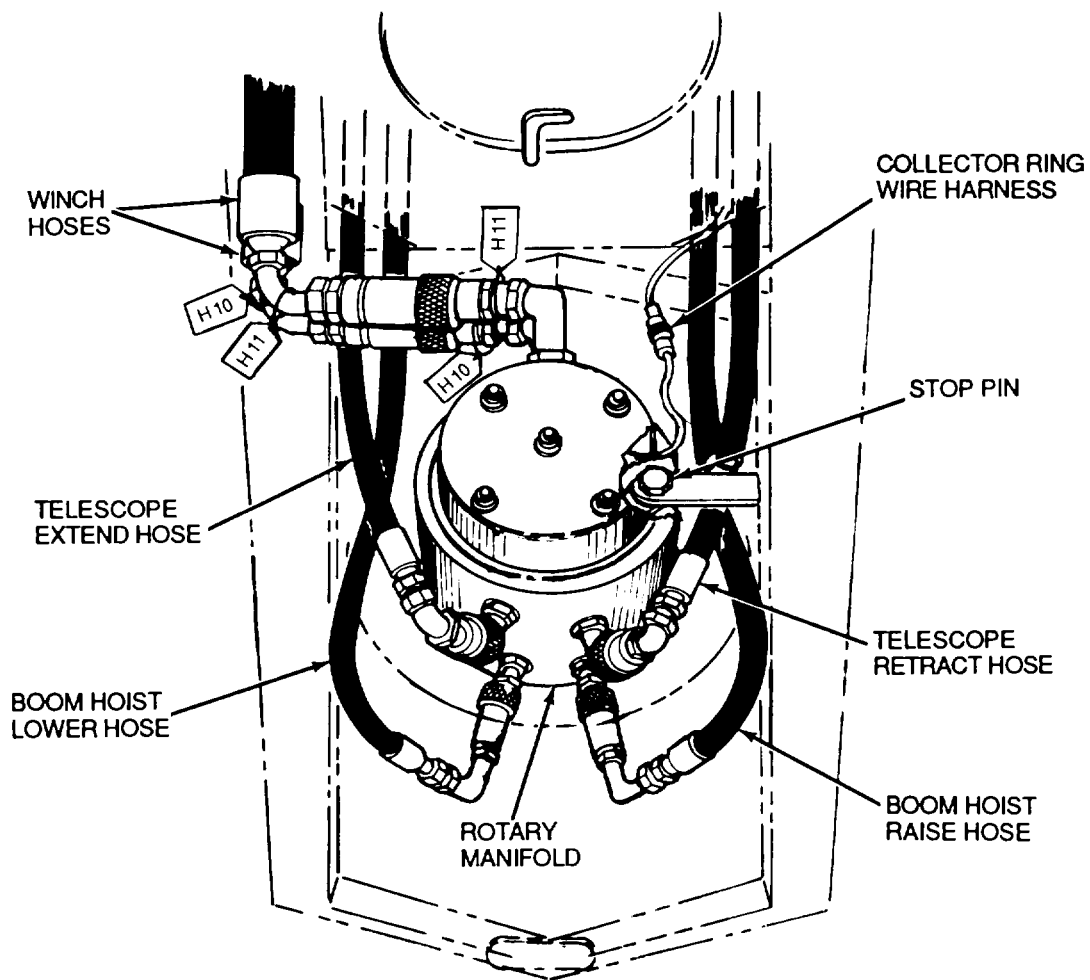

Figure 5-13. *Rotary Manifold Hoses*
- b. Connect extend-retract hoses, hooked under tabs (Figure 5-13), onto rotary manifold.